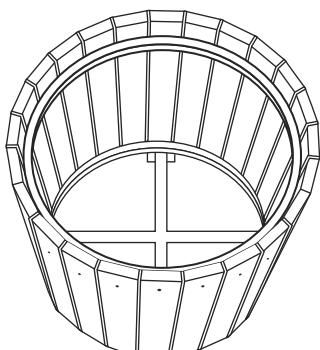

Figure 4
- Using the same directions listed in steps 2, 3 and 4, line up the top ring with the resinwood slats and repeat the process until all resinwood slats have been attached to the top ring. You may now tighten all bolts remembering to make sure the can is put together evenly. (See Figure 4)